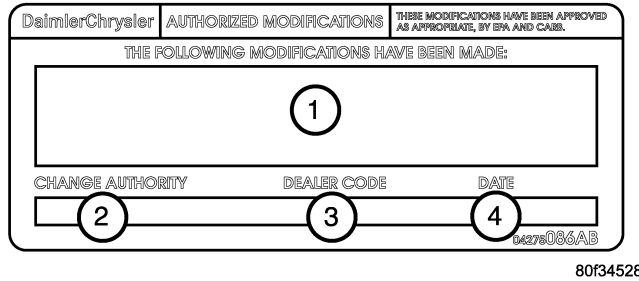

Fig. 1 AUTHORIZED MODIFICATION LABEL
- 6. Type the necessary information on the “Authorized Modification Label” p/n 04275086AB and attach near the VECI label (Fig. 1).